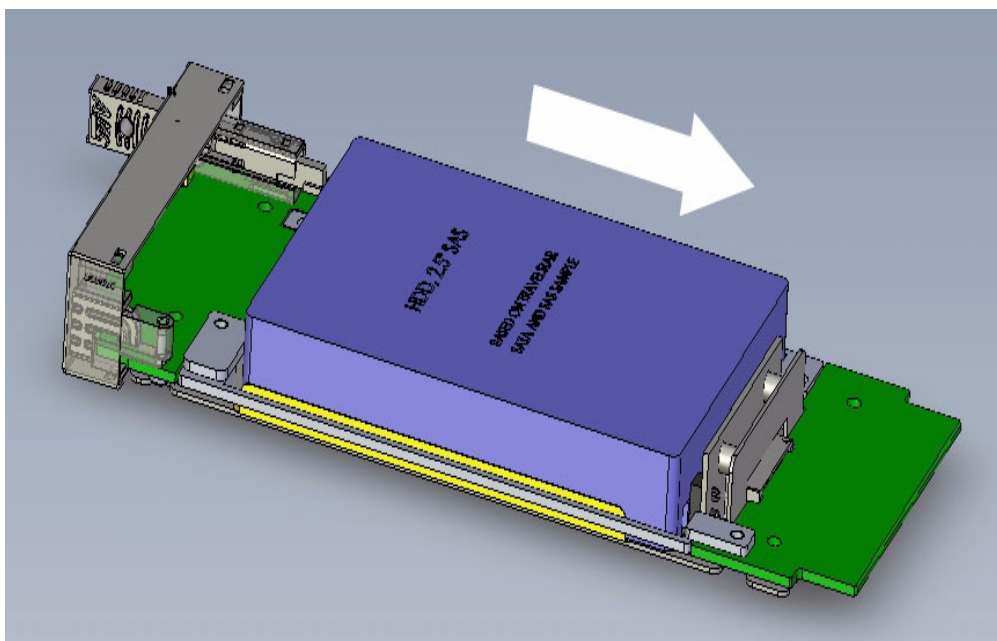

Figure 3.2 Engaging the HDD with the SAS/SATA connector
2. Lower the HDD down to the bracket and gently advance it onto the SAS/SATA connector to full engagement (see Figure 3.2).